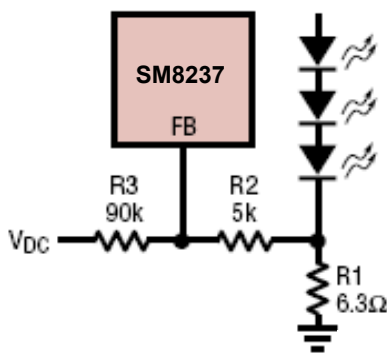
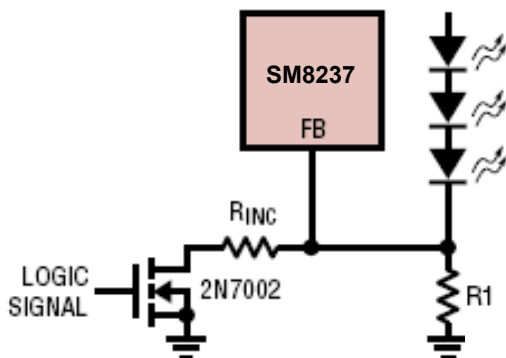
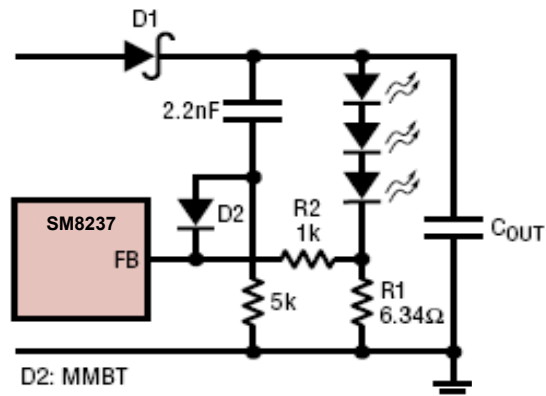

Figure 3 Dimming control using a DC voltage
Figure 5. Dimming control using a logic signal
Figure 6. Recommended soft-start circuit
For some applications. The preferred method of brightness control is a variable DC voltage to adjust the LED current. The dimming control using a DC voltage is shown in figure 5. As the DC voltage increases, the voltage drop on R2 increases and the voltage drop on R1 decreases. Thus, the LED current decreases. The selection of R2 and R3 will make the current from the variable DC source much smaller than the LED current and much larger than the FB pin bias current. For VDC range from 0V to 2V, the selection of resistors in figure 3 gives dimming control of LED current from 0mA to 15mA.
The filtered PWM signal can be considered as an adjustable DC voltage. It can be used to replace the variable DC voltage source in dimming control. The circuit is shown in figure 6.
For applications that need to adjust the LED current in discrete steps, a logic signal can be used as shown in figure 5. R1 sets the minimum LED current (when the NMOS is off). RINC sets how much the LED current increases when the NMOS is turned on. The selection of R1 and RINC follows formula (1) and Table 1.
To achieve minimum start-up delay, no internal soft-start circuit is included in SM8237. When first turned on without an external soft-start circuit, inrush current is about 200mA. If soft-start is desired, the recommended circuit and the waveforms are shown in figure 6. If both soft-start and dimming are used, a 10kHz PWM signal on SHDN is not recommended. Use a lower frequency or implement dimming through the FB pin as shown in figure 3,4 or5.